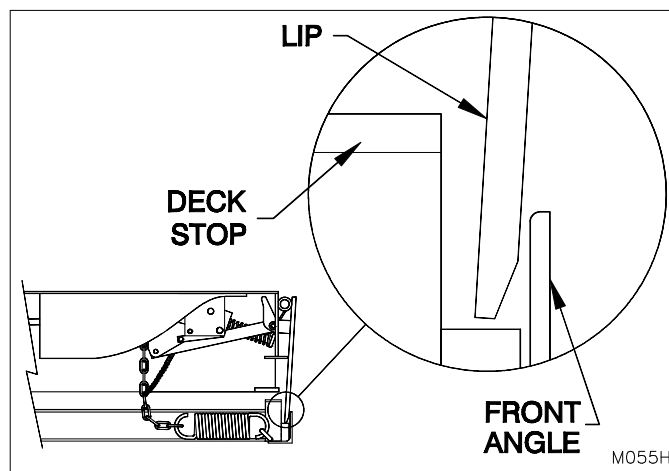

Figure 25: Lip Keeper
6. When loading or unloading is complete, or to handle end loads, operate the dock leveler by jogging the release chain until the lip clears the truck bed and falls to the pendant position. (Jogging the release chain reduces the momentum of the rising deck thus lessening the shock impact on the hold down box) Release the chain and walk the deck down to the stored position, assuring that the lip is behind the front angle. (See Figure 25: Lip Keeper on page 16)
- If the deck was 4" or more above dock level when the truck departed, the lip will fall to the pendant position. Walk the dock leveler down to its stored position assuring that the lip is behind the front angle. (See Figure 25: Lip Keeper on page 16)
- If the deck was less than 4" above dock level, the lip will fall to the pendant position in front of the front angle. To store the dock, jog the release chain and allow the dock leveler to rise a minimum of 4" above dock level to ensure the lip will clear the front angle. Walk the dock leveler down to its stored position, assuring that the lip is behind the front angle. (See Figure 25: Lip Keeper on page 16).
4. To return the dock leveler to the stored position: Repeat #1 above and walk the dock leveler into its stored position, assuring the lip is behind the front angle. (See Figure 25: Lip Keeper on page 16)